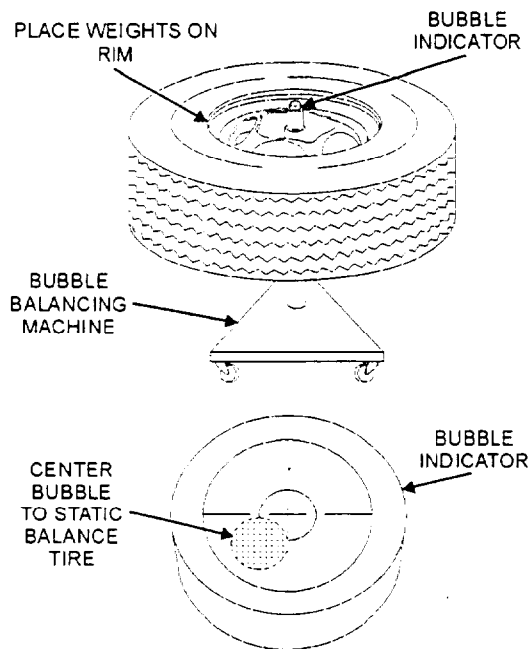

Figure 8-45.—Bubble balancer.
- **BUBBLE BALANCER** (fig. 8-45) is the most common type of balancer used by the NCF. This type of balancer will ONLY statically balance a wheel